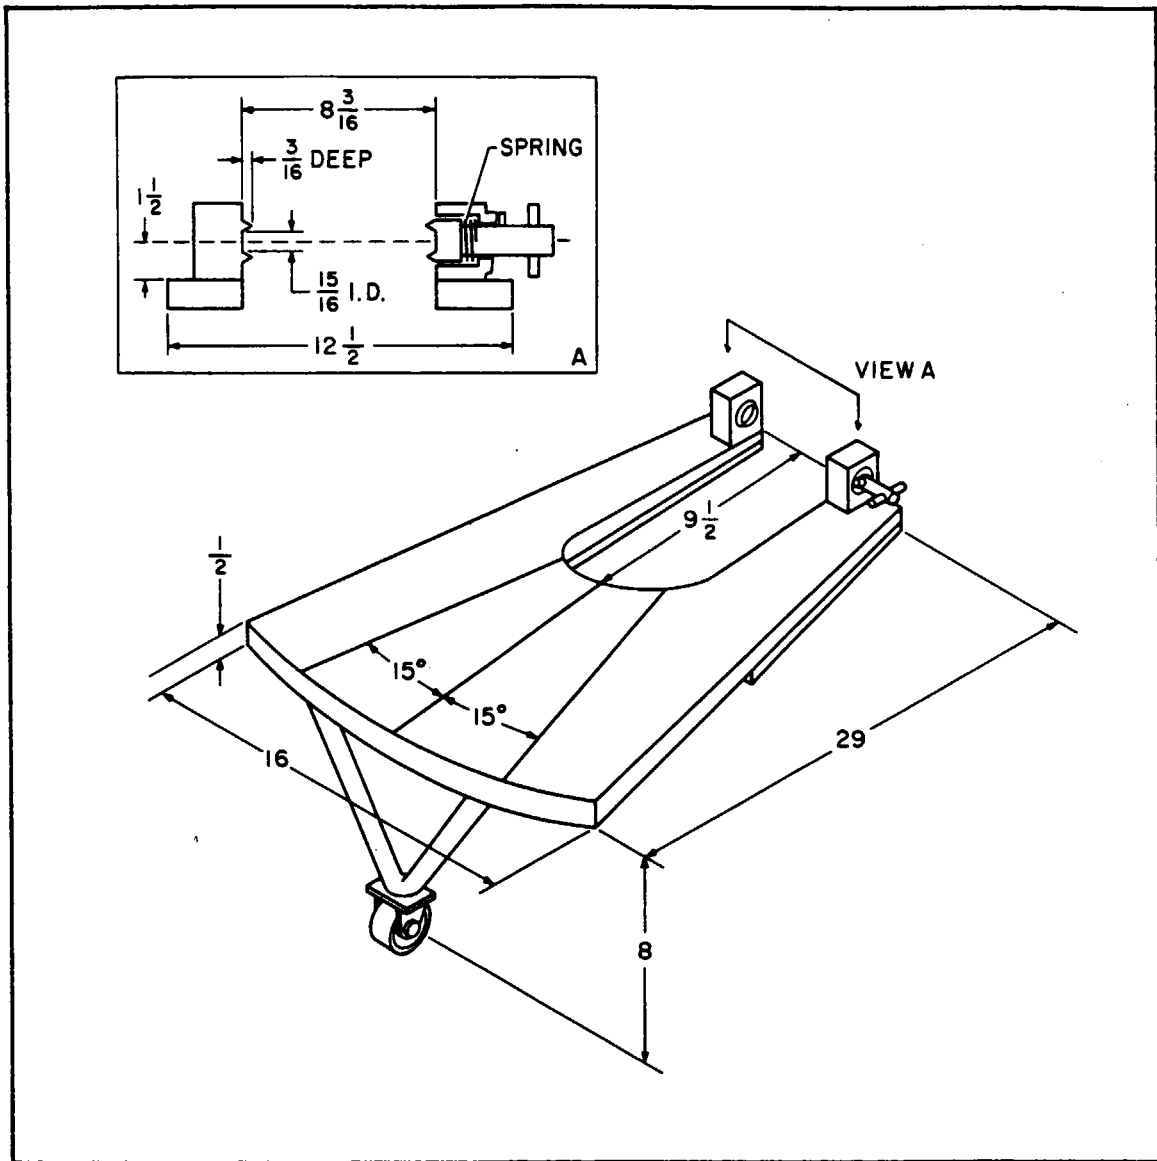

Figure 5-8. Nose Wheel Aligning Jig
- a. Align the nose wheel so it is in a position to steer straight. Do this either by employing the chalk line method described in Steps "a", "b", and "c" of Paragraph 5-19 or by hanging one plumb bob from the grease fitting at the upper end of the nosewheel drag link and a jig similar to that shown in Figure 5-8. If the jig is fabricated, attach it to the nosewheel and then turn the wheel until the centerline of the jig aligns with the plumb bob.